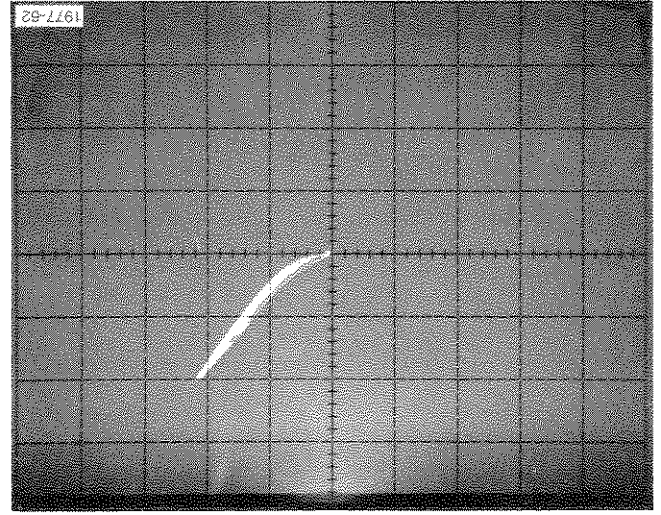

Fig. F-10. Display of saturation voltage.
- c. Check that the horizontal deflection of the display (representing saturation voltage) is  $\leq 4$  divisions from the zero reference point established in part a above (see Fig. F-10).